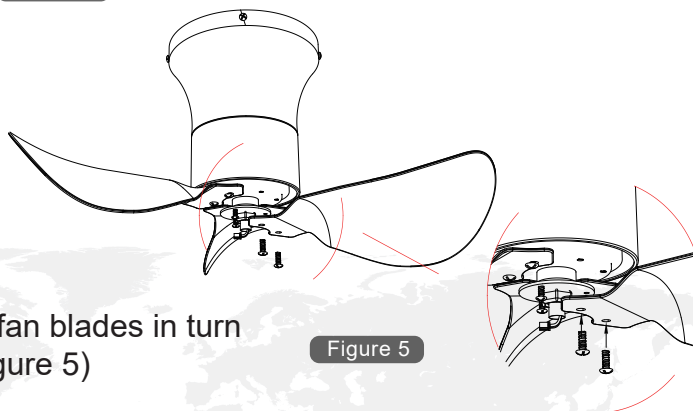

Figure 5
⑤ Fix the three fan blades in turn with screws. (Figure 5)